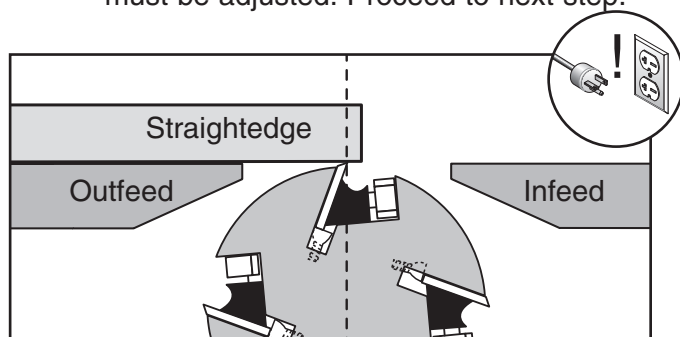

Figure 67. Using straightedge to ensure outfeed table height is set even with knives at TDC.
When outfeed table height is correctly set, knives will barely touch straightedge, as shown in **Figure 67**.
6. Use outfeed table height handwheel to set outfeed table so knife barely touches straightedge (see **Figure 67**).